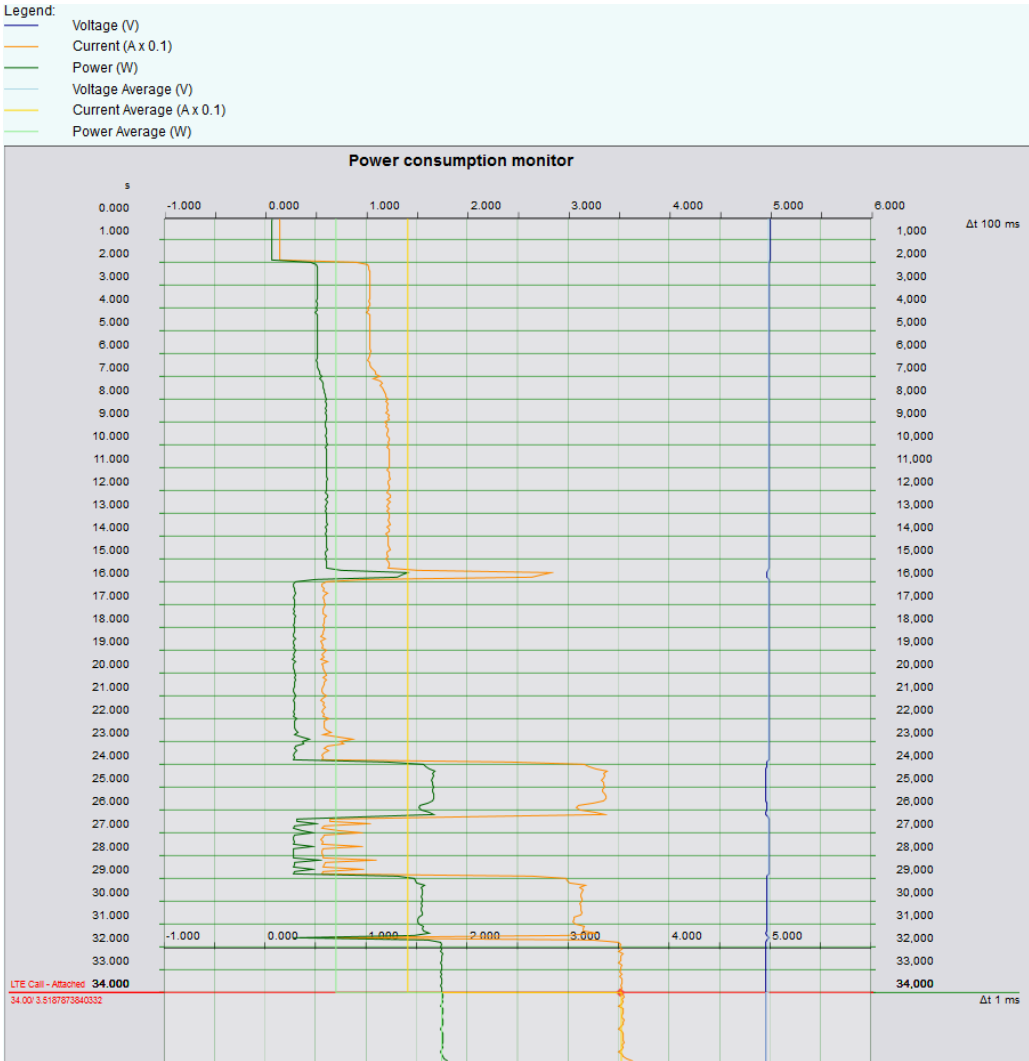

Figure 5-5: First part of event chart of LTE Cat0 power measurement with CMWrun
The event chart gives an intuitive overview of the consumption and represents all values graphically over time. Figure 5-5 shows the first part of the event chart. The DUT is powered on at about t = 2 s, after which the boot sequence is started. After about 24 seconds into the test, the device starts searching for the LTE base station (BS). At 34.00, the "LTE Call" test emits an event marker, announcing that the DUT has attached to the BS. The time resolution changes due to the event marker as defined in the power consumption testplan.